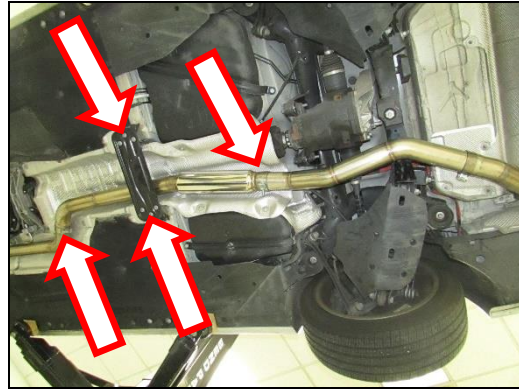

Figure 8
- Slide on the 3" band clamp and install the resonator pipe. Reinstall the cross brace and tighten (x6) bolts. Slide on the 3" band clamp and install the under axle tube (**Figure 8**).